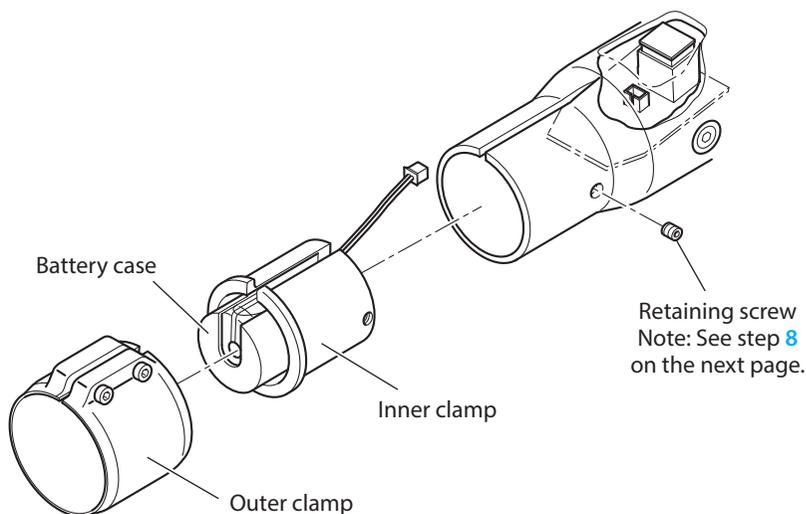

Fig. 22 Removing the Clamps
- 3 Remove the outer clamp from the frame, remove the retaining screw, and pull out the inner clamp together with the battery case (Fig. 22).
Note: When installing the inner clamp, place the battery connector on the upper surface of the circuit board as shown in Fig. 22.